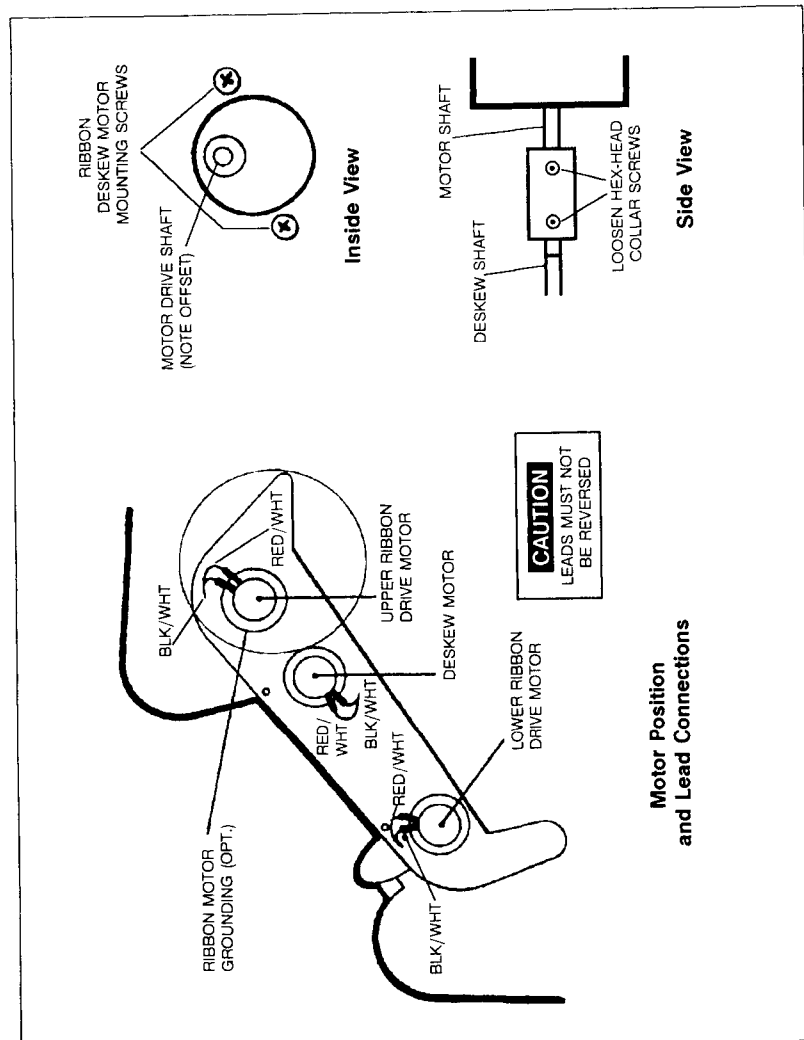

Figure 6-20. Ribbon Deskew Motor
Before removing the wire leads to the motor, be sure to note their positions (see Figure 6-20). These leads must not be reversed, as this would cause the motor to run backwards.
- l. Slide the motor and deskew shaft out towards the right (see Figure 6-20).
Care must be taken to replace the motor in the same position that it was removed (see Figure 6-20). Damage to the deskew mechanism can result from improperly installed motor.